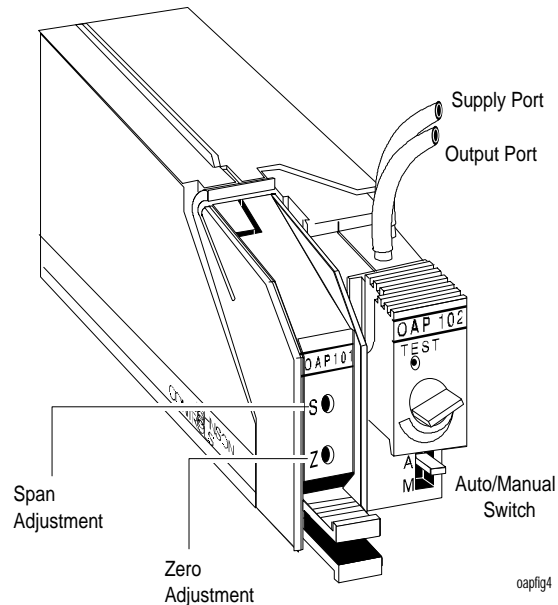

Figure 4: OAP101/102
1. Move the Auto/Manual (A/M) Switch on the OAP102 to the “A” position. Refer to Figure 4.
3. Use a small, flat-blade screwdriver, and change the Zero adjustment (Z) to achieve the desired minimum position of the field device as indicated on the engineering drawings.
5. Use a small, flat-blade screwdriver to change the Span adjustment (S) on the OAP101 for the desired maximum as indicated on the engineering drawings.